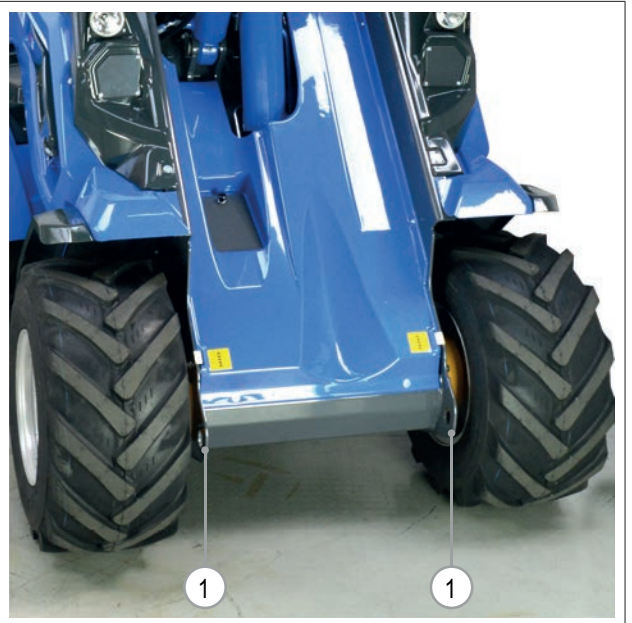

FIG. 33
- 2) Connect to the attachment points of the machine (FIG. 33 - Ref. 1) the ropes and/or chains of towing.